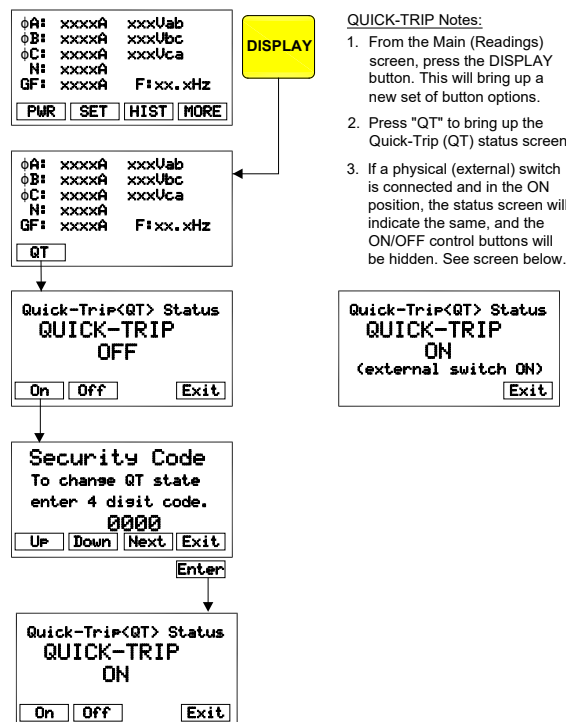
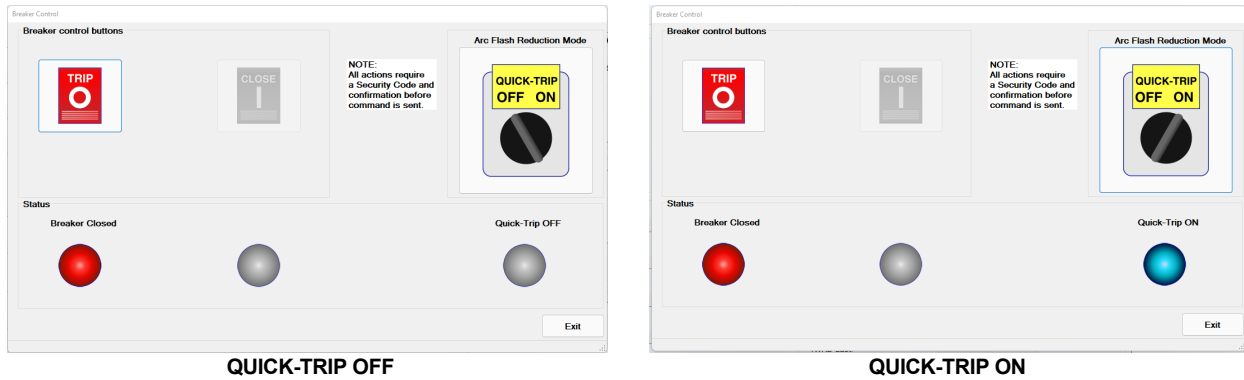

Figure 7.3: Front Panel QUICK-TRIP ON/OFF Control
Figure 7.4: Breaker Control Window (InfoPro-AC or Smart 1-Line)
QUICK-TRIP® arc flash hazard reduction can be activated using local or remote switches (See Sections 7.1 and 7.3) or via three (3) other "soft" methods including the AC-PRO-NW front Keypad, via InfoPro-AC (USB), or the Smart 1-Line HMI. (See Figure 7.4: Breaker Control and Figure 7.3: Front Panel QUICK-TRIP ON/OFF Control.) URC recommends using only one means or the other (use either physical switches OR use a "soft" method).